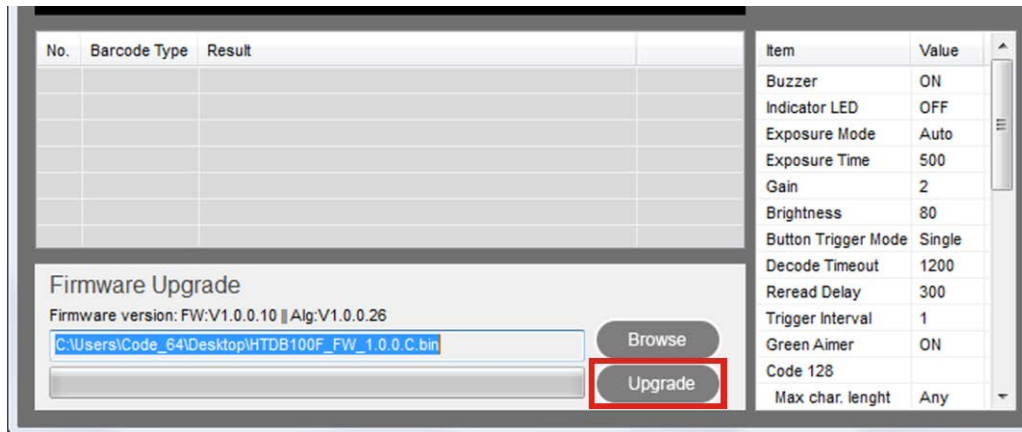

Figure 3-15: Upgrading Firmware
Step 3: When the new firmware file is selected, click **Upgrade** to start updating the device firmware (**Figure 3-15**).